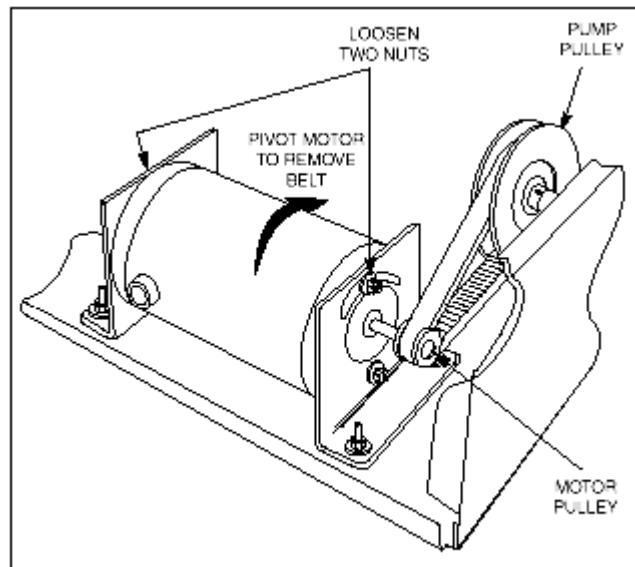

Figure 7. Replacing the Belt
- B). Refer to Figure 7 and loosen, but do not remove, the two nuts that secure the motor to the top of the motor mounting brackets.
- A) Refer to Figure 7 and loosen, but do not remove, the two nuts that secure the motor to the top of the motor mounting brackets.